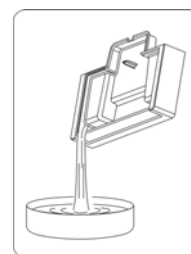

Fig. 10
When the drip tray (8) is filled with water, its red emptiness gauge (9) will rise above the drip tray grid (7). Pull out the drip tray (8) with the grid (7) out of the espresso machine and pour the water out (Fig. 10). Place the accessories back in the machine.